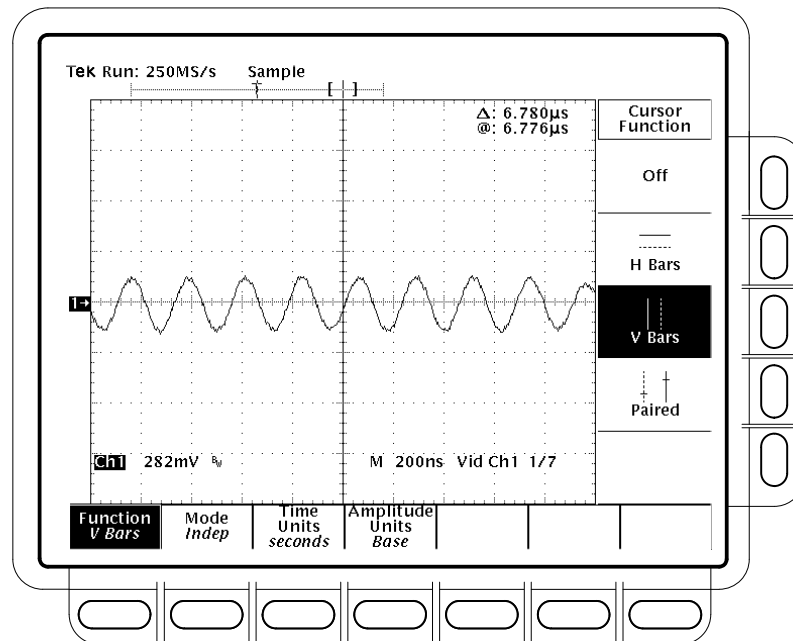

Figure 1-36: Line Count Accuracy Correct Result Waveform
- Verify that the cursor is positioned on a positive slope of the burst signal. See Figure 1-36.